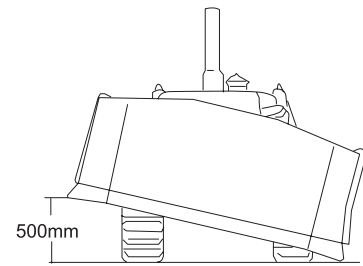

Figure 2-77
► The biggest tilt of blade: 500mm (Figure 2-77)